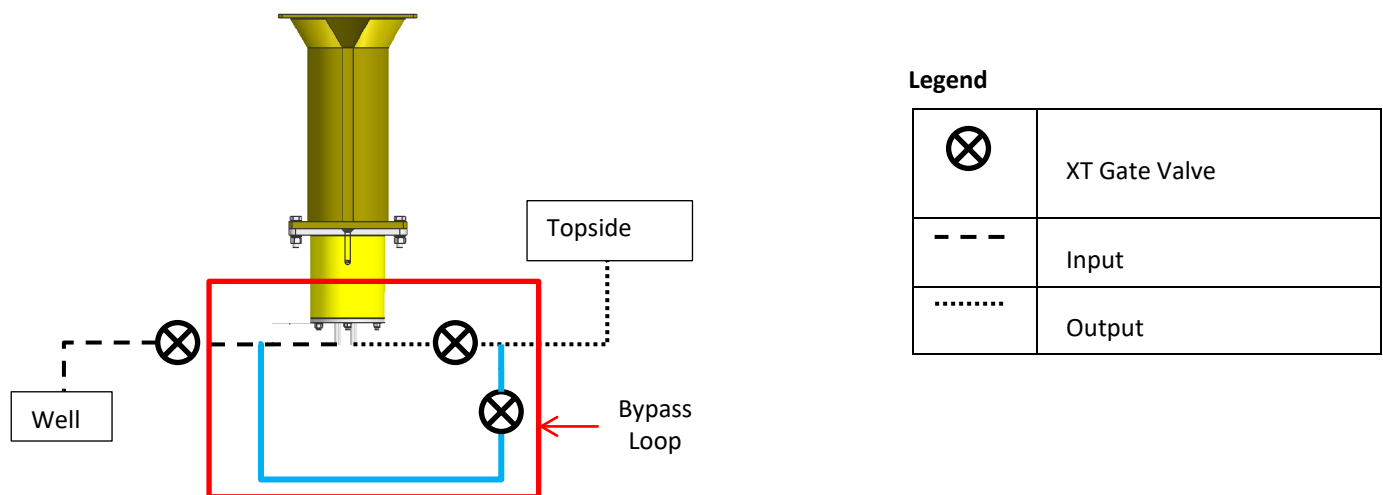

Figure 53: P&ID of a Bypass Loop
21.4 For flushing the chemical injection system, it is recommended to use a SkoFlo test flushing unit rather than a CIMV in the flow path or to install a bypass loop across the CIMV as shown in Figure 53 below to prevent solidifying chemicals from clogging the CIMV.